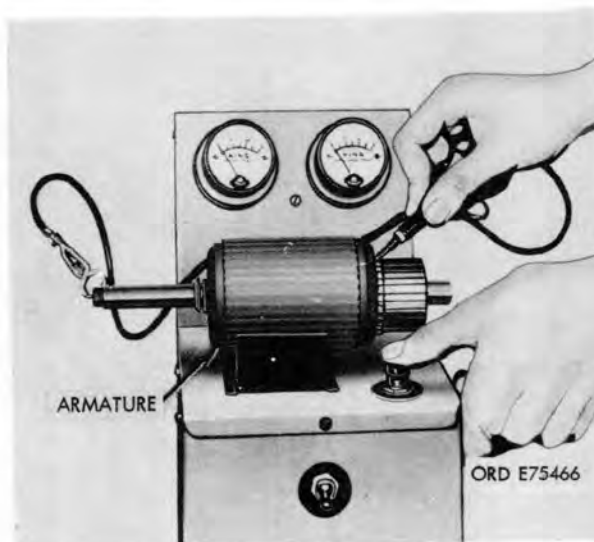

Figure 4-12. Checking armature for grounds.
- (3) *Check for grounds* (fig. 4-12). Touch one probe of continuity tester to the armature shaft or core, and the other, in turn, to each commutator riser. If ground is present, armature must be replaced.